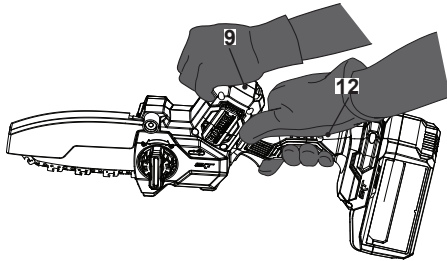
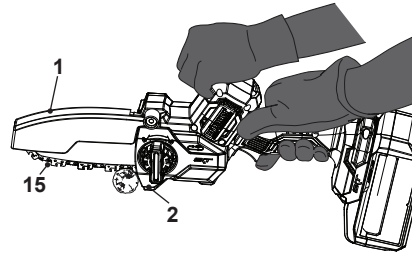

Fig. 18
Fig. 19
2. Ensure you have a firm grip on the product at all times. Hold the control handle (12) securely while operating the product. If needed, place your other hand on the rear handgrip (9) as an auxiliary handle to maintain a comfortable and balanced posture (Fig 18).
3. Ensure that the saw chain (15) is properly lubricated before performing any cut.
4. Ensure the saw chain (15) is running at full speed before it makes contact with the wood. Use the base plate (2) to secure the product onto the wood before starting to cut and use it as a leverage point while cutting (Fig. 19).